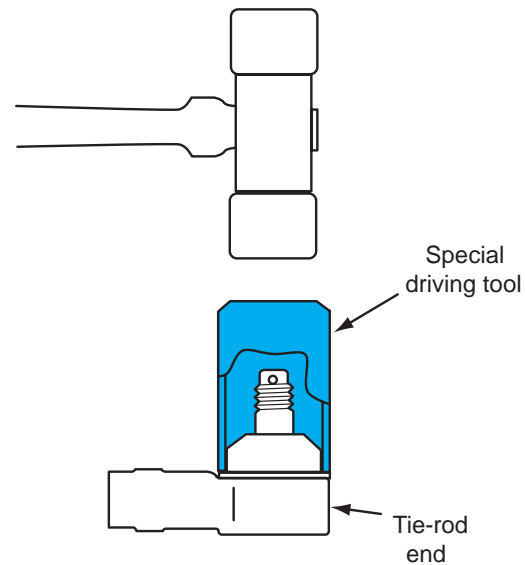

Figure 13-14 Driving the boot onto the tie-rod end with a special driving tool.
4. Use the special driving tool to install the new boot on the tie-rod end (Figure 13-14).